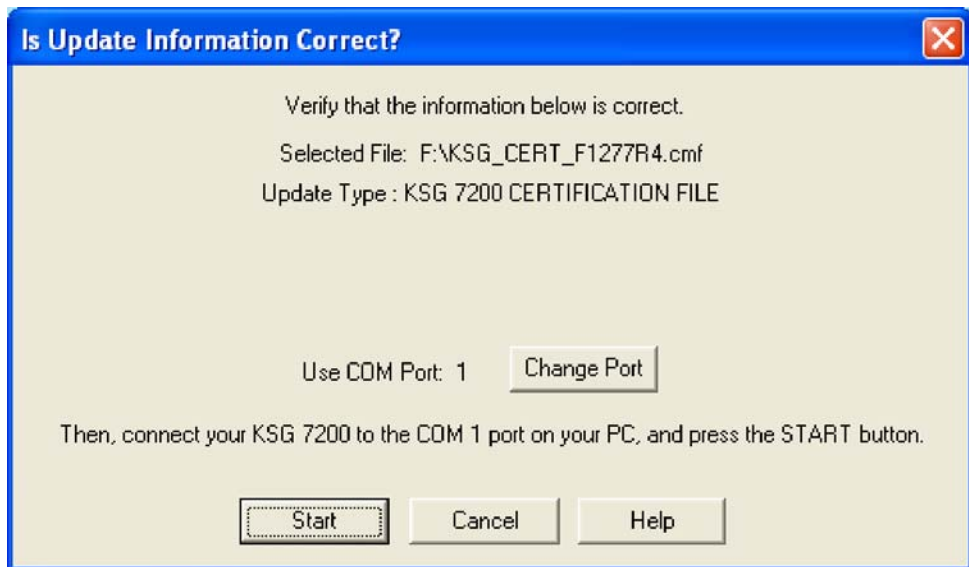

Figure 35. (Sheet 1 of 1) Is Update Information Correct? Window for Twin Otter Certification File KSG_CERT_F1277R4.cmf (Certification File 3a)
- (d) Refer to Figure 35 to identify Twin Otter Certification File 3a.